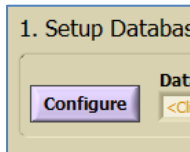

Figure 1.2-1: The **Configure** button
1. Click **Configure** button. (Figure 1.2-1)